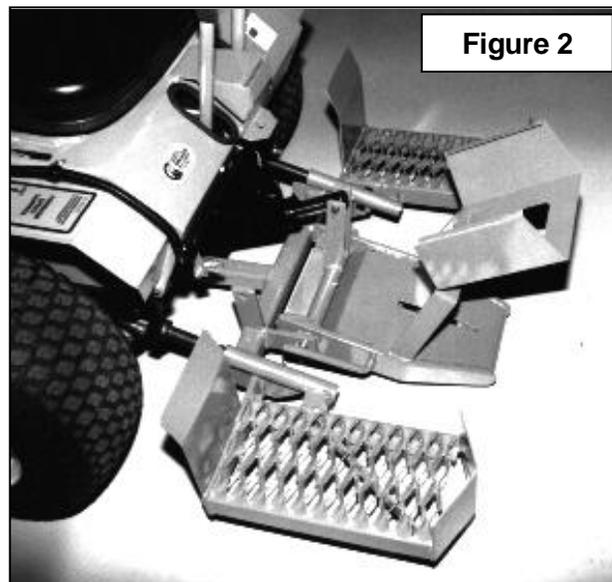
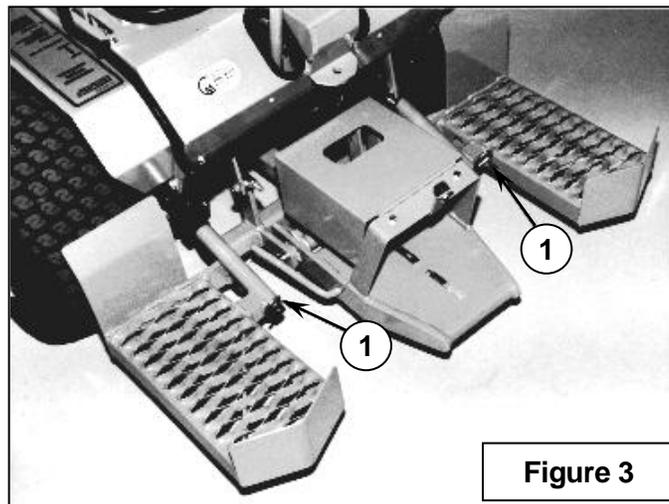
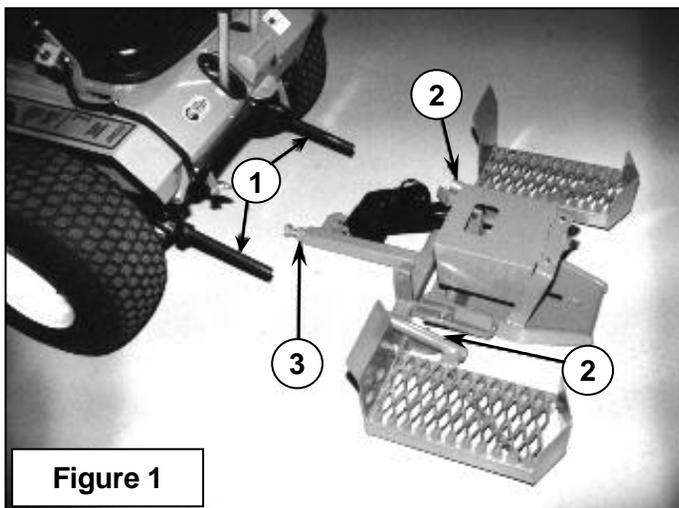
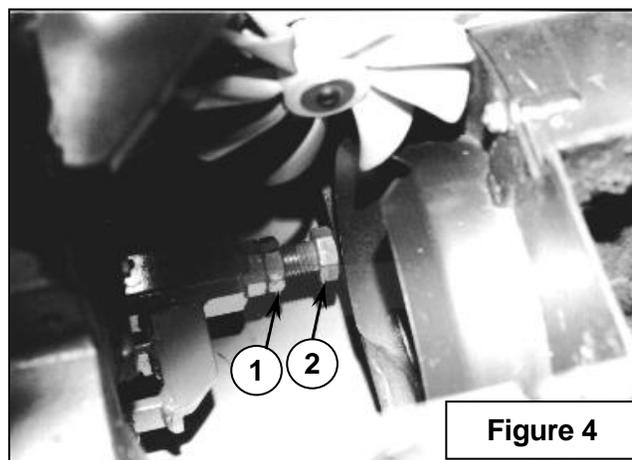

Figure 2
Figure 3
Figure 1
Figure 4
1. Lightly grease the deck support arm shaft (fig.1, item 1) on the tractor.
2. Engage adaptor frame tube sockets (fig.1, item 2) onto the tractor support arms (fig.1, item 1) and slide on as shown in figure 2. Continue to slide on until you can install a hitch pin (fig.3, item 1) through the hole in each end of the support arm shafts.
Loosen the 3/4" jam nut (fig.4, item 1) or (fig.1, item 3). Adjust the 3/4" hexagon bolt (fig.4, item 2) until it contacts the cross-member of the tractor frame, and securely tighten the 3/4" nut to prevent the bolt from moving.